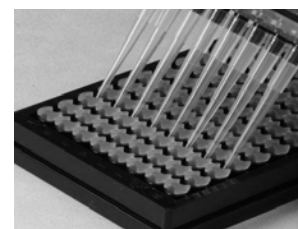

Figure 4. Media is Added with Single or Multi-Channel Pipette
**NOTE:** For best results, add or extract media by placing the pipette tip along the wall of the well (see Figure 4). Care should be taken not to disturb the Collagen Coating or the Cell Seeding Stopper when introducing the pipette tip into the well. A slender/elongated tip or a gel loading tip may be useful.